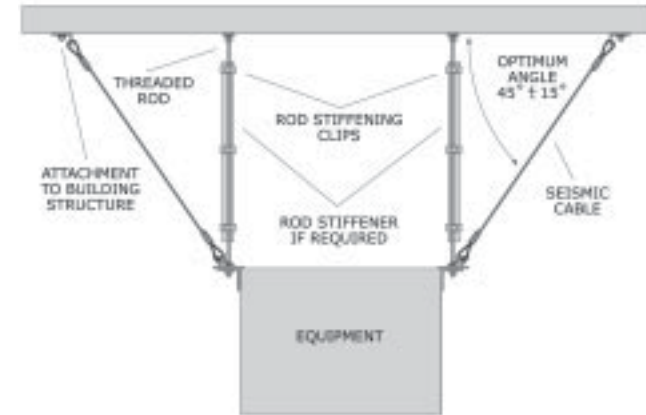

Figure 94: Two-point equipment attachment.
**The equipment attachment should be located just above the center of gravity of the equipment to minimize swinging. It should be a rigid attachment with brackets to the equipment using double nuts and washers, especially if connected at the top as shown in Figure 94 (page 93).**